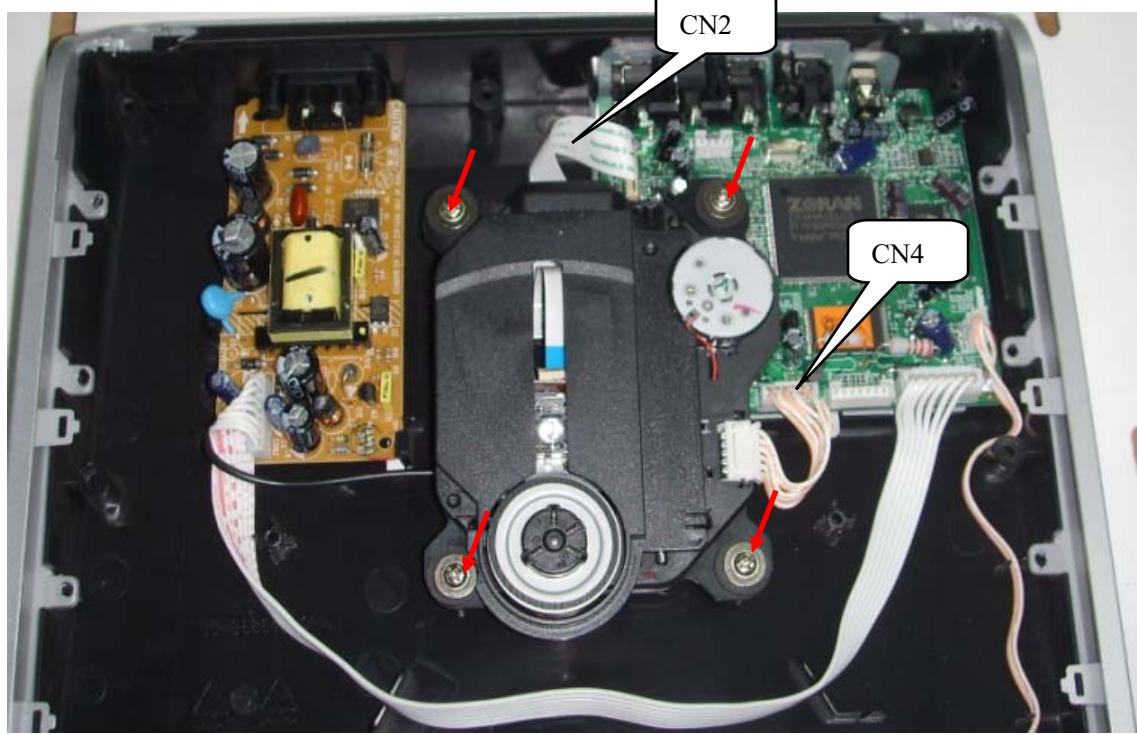

Figure 5
Step3: Dismantling Loader: disconnect the 2 connectors aiming in the figure and 4 screws, then can remove the loader. (Figure5)